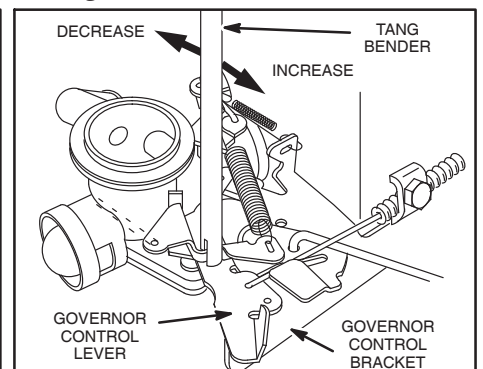

Fig. 6 - Primary Spring Adjustment
4. Bend primary governor spring tang until engine speed is 200 RPM less than "TOP NO LOAD" RPM, Fig. 6.